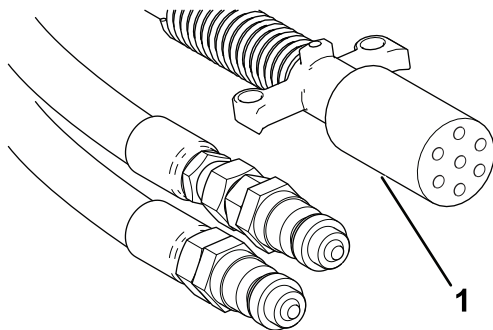

Figure 21
8. Connect the 7-pin coiled power cable to the socket on the machine and the tow vehicle (Figure 21).